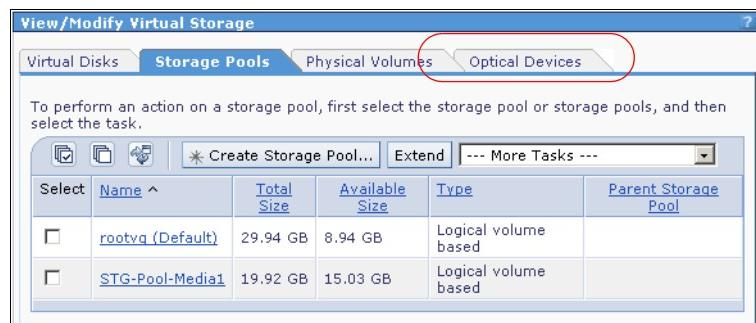

Figure 6-3 Media library - new storage pool
- The storage pool was created. Now select the **Optical Devices** register card. See Figure 6-3.